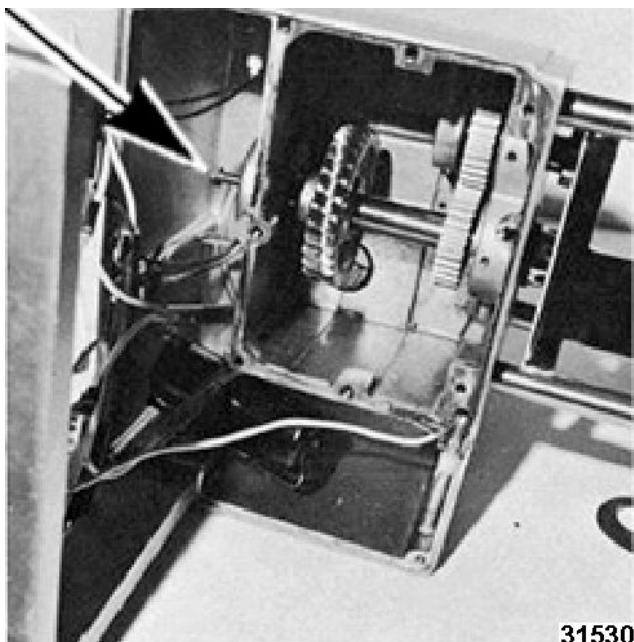

Fig. 35
- A. Follow the procedure as outlined in the section "Electrical System" 5A. (1) to 5A. (13) for opening the gear case and removing the motor.
- G. Use a wrench to tighten this bolt (Fig. 35), jacking the stub shaft to the right.